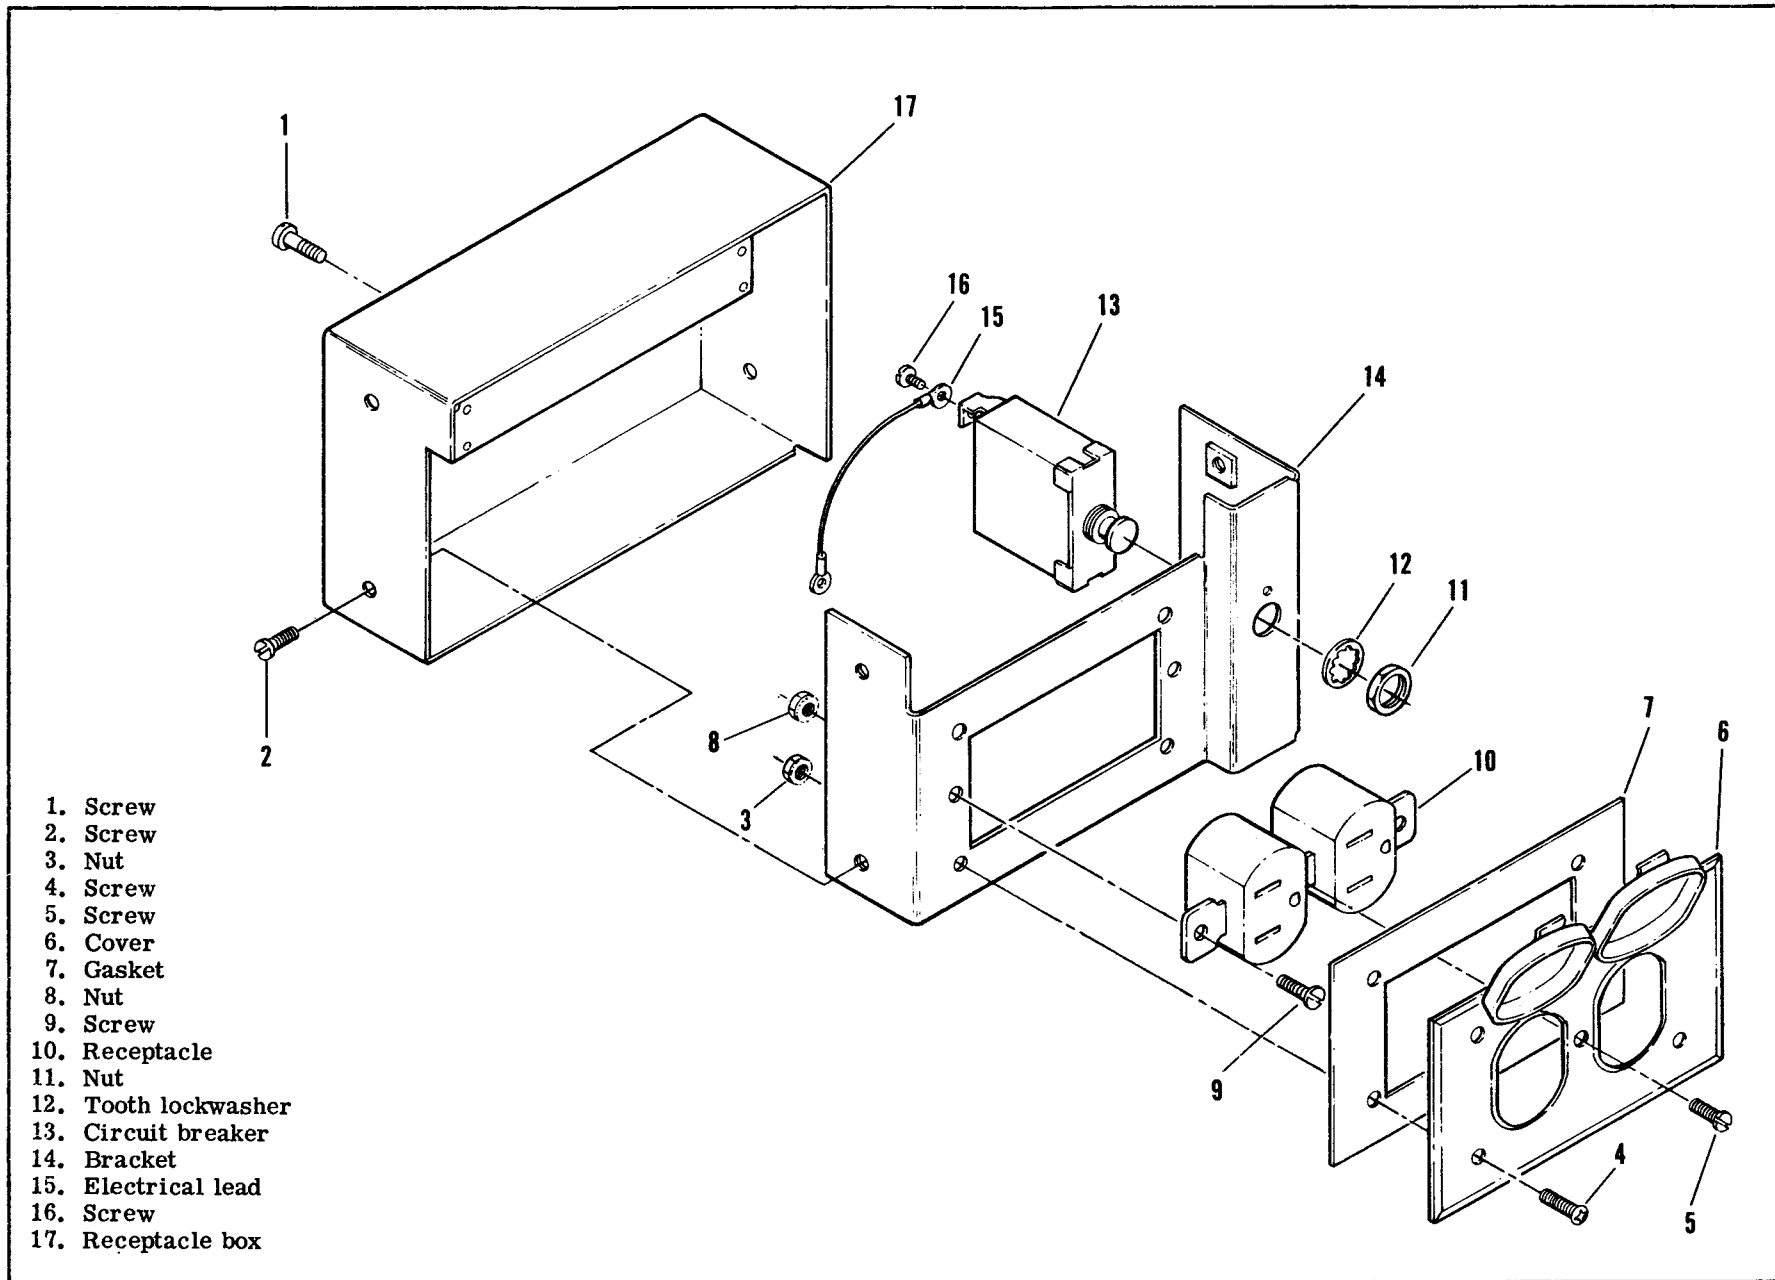

Figure 3-44. Convenience Receptacle and Circuit Breaker, Removal and Installation
(1) Remove screws (1, figure 3-44) and carefully pull convenience receptacle box out from generator set.
(2) Remove screws (2) and carefully pull convenience receptacle and circuit breaker away from box (17).
(3) Tag and disconnect electrical leads from convenience receptacle and circuit breaker.
(4) Remove nuts (3) and screws (4 and 5) to remove cover (6) and gasket (7).
(5) Remove nuts (8) and screws (9) to remove receptacle (10).
(6) Remove nut (11) and tooth lockwasher (12) to remove circuit breaker (13) from bracket (14).
(7) Remove screw (16) to disconnect wire (15) from circuit breaker (13).